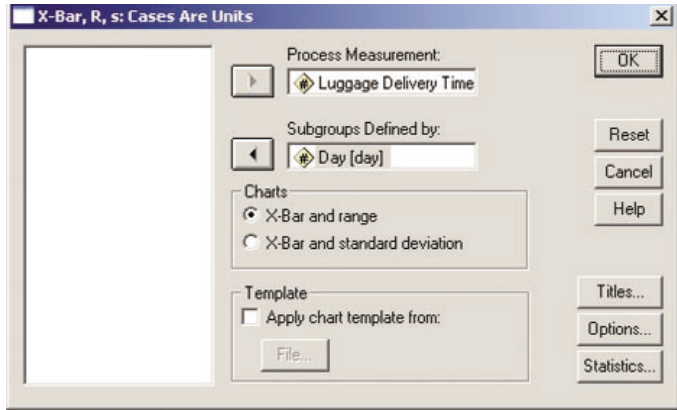

FIGURE A18.11 SPSS X-bar, R, s: Cases Are Units Dialog Box
2. In the X-bar, R, s: Cases Are Units dialog box (see Figure A18.11), enter **Luggage Delivery Time** in the Process Measurement: edit box and **Day** in the Subgroups Defined by: edit box. Select the **X-Bar and range** option button. Click the **Options** button.